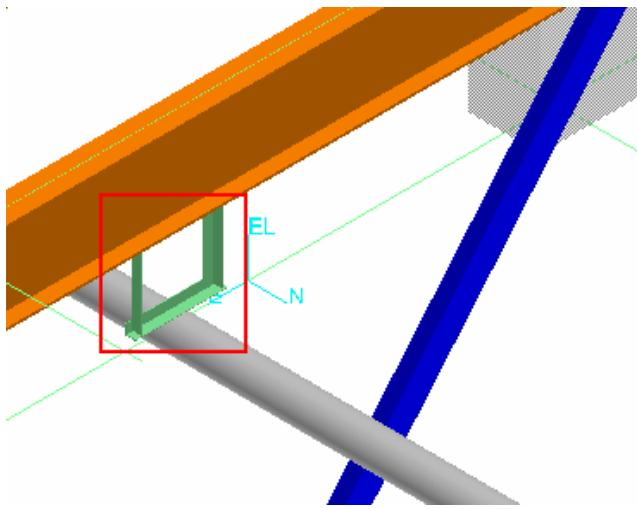

Figure 4: Placed Support by Structure: U Shaped Frame L2x2x1/8 w/o Baseplate
- A standard support **U Shaped Frame L2x2x1/8 w/o Baseplate** by structure, using the indicated pipe straight feature on pipeline **2001-P** and the indicated steel beam that crosses the pipe straight feature should have been placed by using the **Place Support by Structure** command. The placed support should resemble the highlighted support in Figure 4.